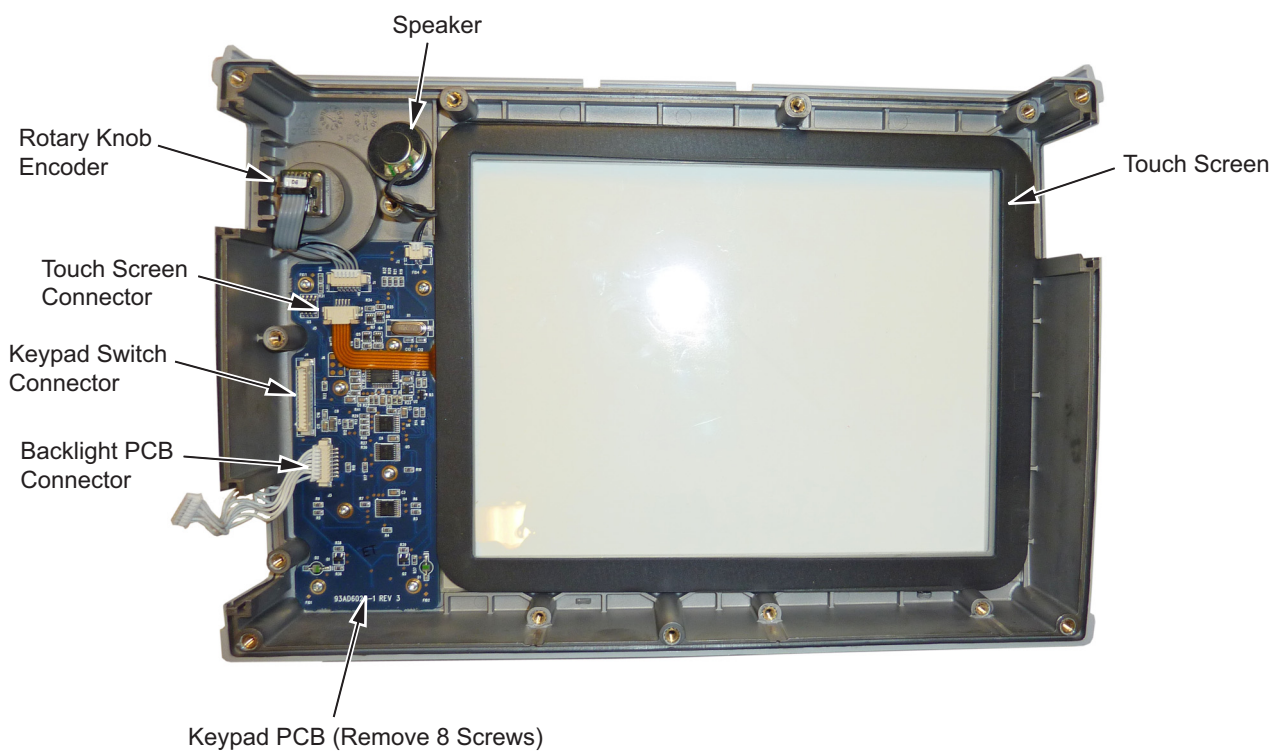

Figure 6-27. Front Panel Keypad Replacement
4. Remove the 8 screws and the cable connectors to remove the Keypad PCB (Figure 6-27). The Rubber Keypad is located under the Keypad PCB.